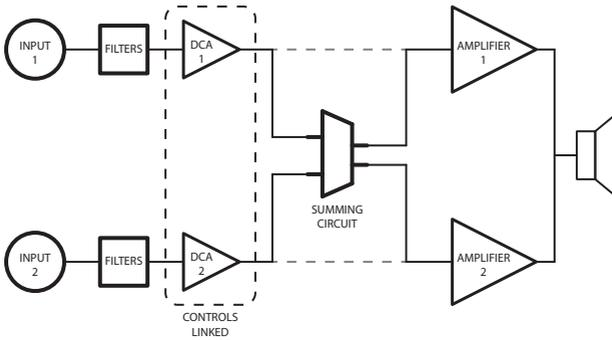

Figure 1.06 (Bridged Mode (both low and high impedance variants))
5. Low Impedance Bridge Mode (Figure 1.06) is used when bridging the amplifier for low impedance loads (i.e.  $<8\ \Omega$ , non 70V loads). In this mode the amplifier performs a soft-reboot, mixes both input channels together, then channel gains are 'ganged'. Ganged channel gains means that either rotary encoder will affect both channels, and the ratio between each channel's gain remains the same. For example, if you set Channel 2 to maximum, and Channel 1 to 50% level then enable Low Impedance Bridge Mode – both channel gain settings will remain the same level apart no matter which rotary encoder is operated. Remember to set individual levels prior to enabling this mode.
6. High Impedance Bridged Mode (Figure 1.06) is used for high impedance loads (i.e.  $8\ \Omega$  - 70V loads). In this configuration, the channel gains are 'ganged' as they are in Low Impedance Bridge Mode, and operate in the same way. Both input channels are also mixed together. This mode also allows for 70V operation.